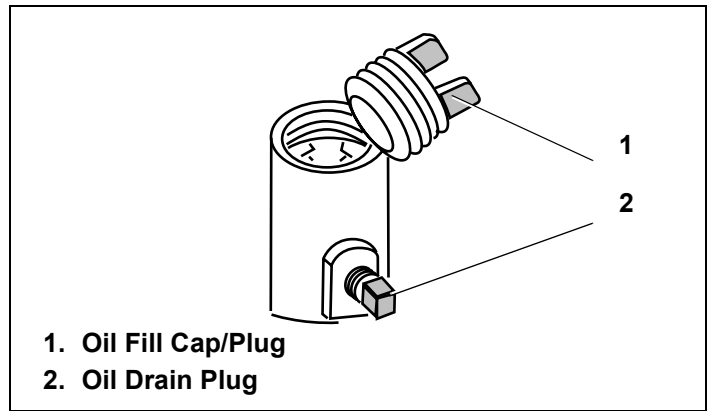

Figure 48. Figure 48 Oil Fill Cap/Plug and Oil Drain Plug
8. Install oil drain plug and tighten securely. See Figure 48.